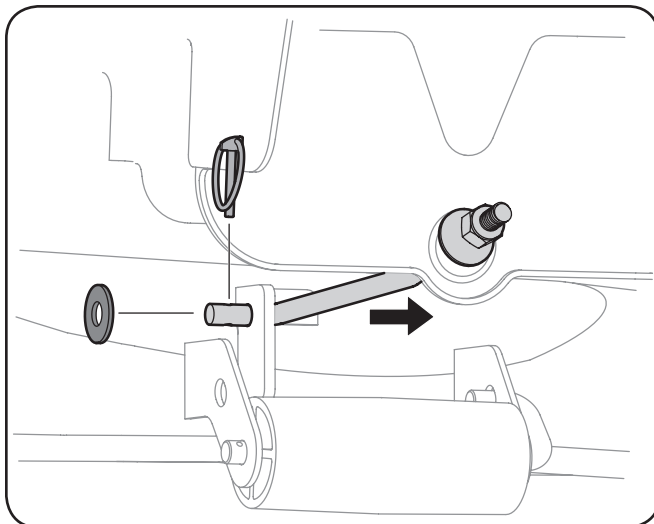

Figure 7-5
- Remove the cotter pin from the end of the stabilizer rod and slide the stabilizer out of the hanger bracket on the deck. See Figure 7-5.